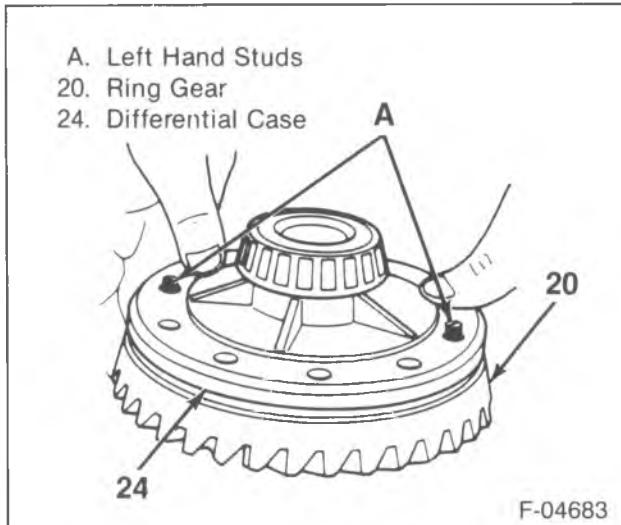

Figure 17—Ring Gear Studs
- 1. Side gear thrust washers (19) to the side gears (22).
- 2. Side gears (22) to the differential case (24).
- 3. Pinion gears (21) to the differential without the thrust washers (20).
- 4. Pinion thrust washers (20).
- 5. Ring gear (7) to the differential case (24).
- Thread two left-hand threaded studs into the ring gear on opposite sides (figure 17).